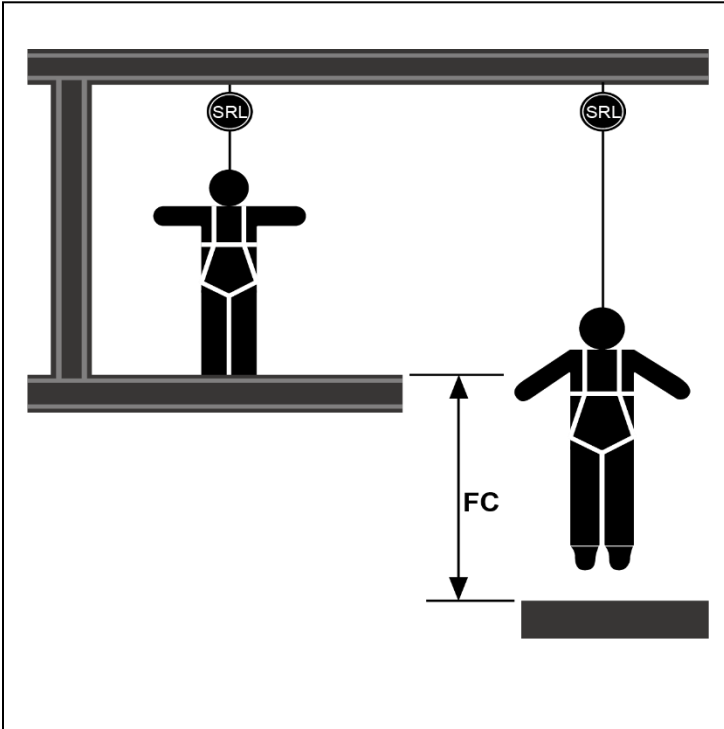
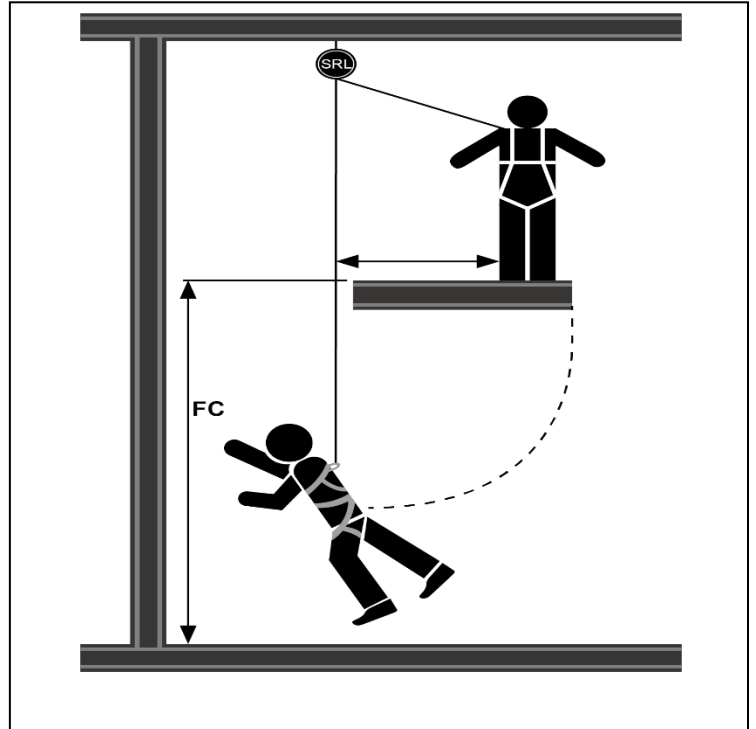
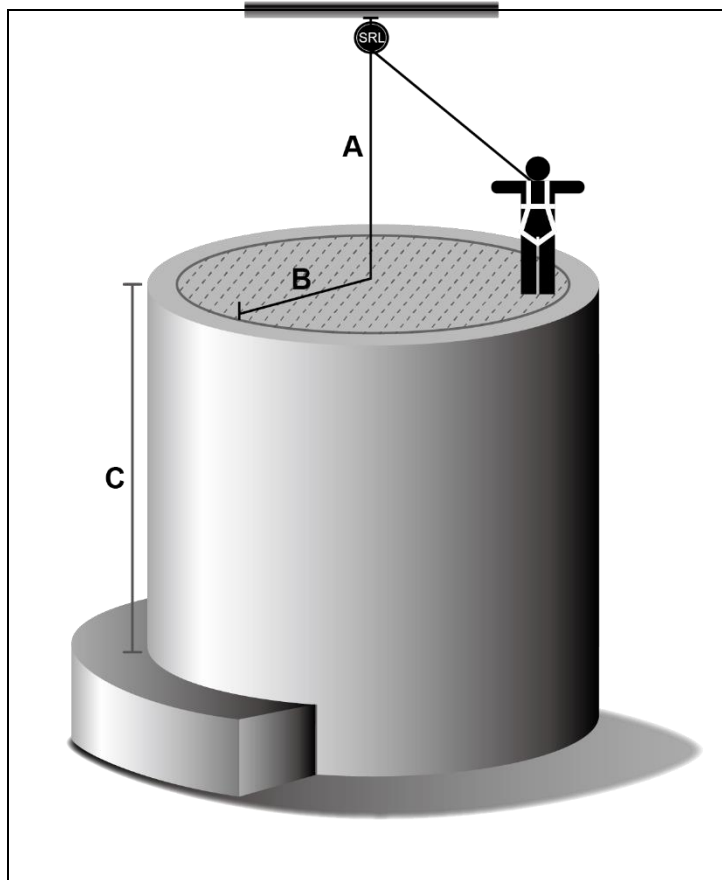

Figure 1B: Fall clearance from a standing position where the SRL is anchored overhead.
Figure 2B: Fall clearance in swing fall situations.
Figure 1C: Minimum required fall clearance for falls from a standing position where the SRL is anchored overhead.
5.4 CALCULATING MINIMUM REQUIRED FALL CLEARANCE: Refer to diagrams and calculation chart in Appendix B and C. Figure 1B and Figure 2B illustrate fall clearance – when the SRL is directly overhead (Figure 1B) and in swing fall situations (Figure 2B). Swing fall situations require additional fall clearance since the total vertical fall distance is greater than if the user had fallen directly below the SRL. Figure 1C, Table 1C illustrates minimum required fall clearance calculation for falls from a standing position where the SRL is anchored overhead. Falls from a kneeling position require an additional 1m (3 ft) of fall clearance.